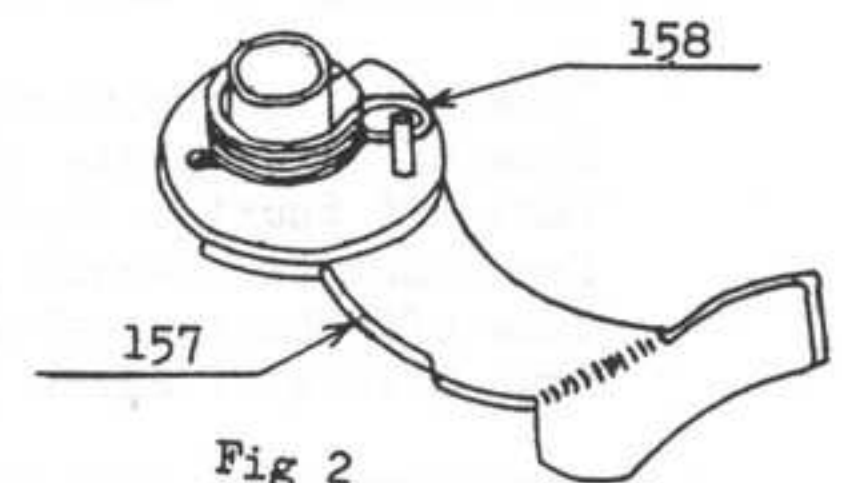
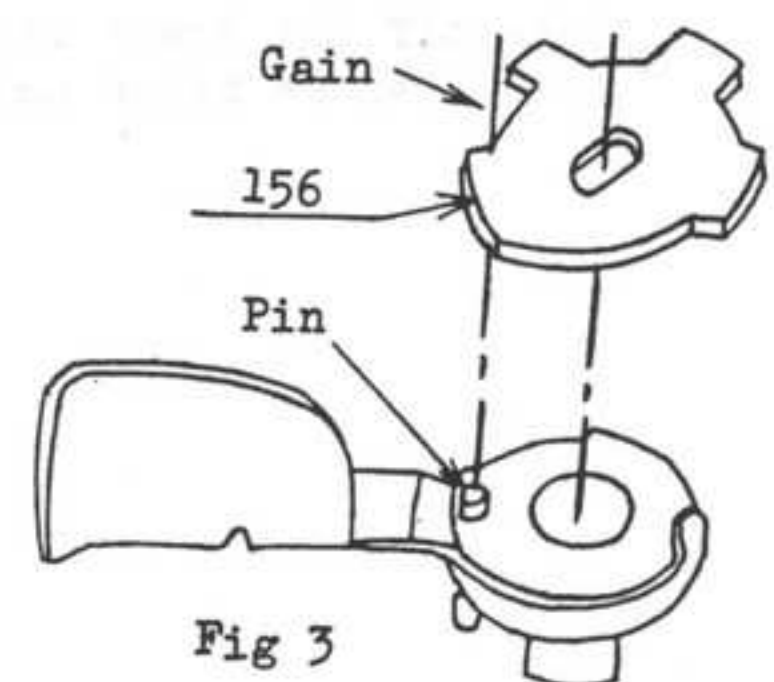

Fig 2
Fig 3
As shown in Fig. 2 hook Wind lever spring (158) on Wind lever (157) and after inserting Wind lever shaft (179) into the body hook another end of the spring at the pin on the body. As shown in Fig. 3 place a gain of Double wind stop plate on the pin of Wind lever (157), and fix it with Wind lever screw (155).